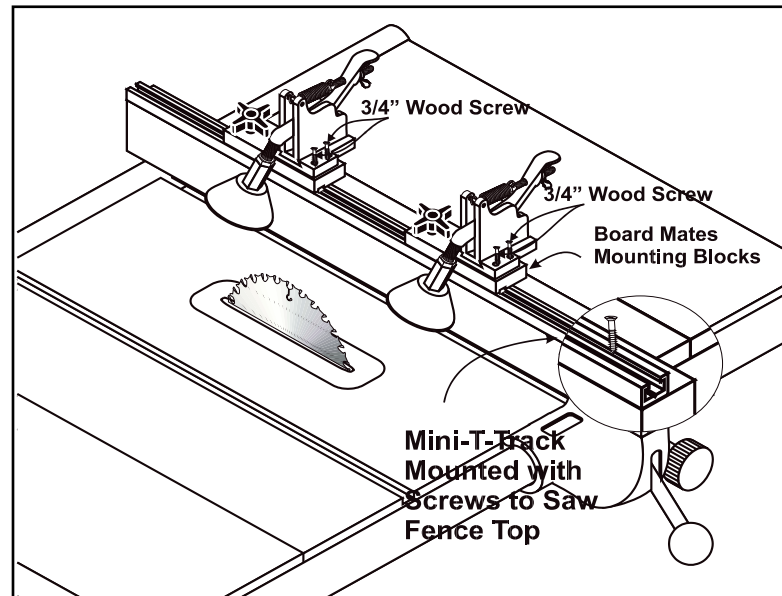

Figure 7
**Option 3 install your BOARD MATES using Board Mates Mounting Blocks (sold separately) on a table saw fence with 1/4" T-Track (sold separately). Figure 7**